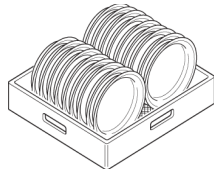

Fig.34
- 1- Load plates in frontal position. (Fig.34)